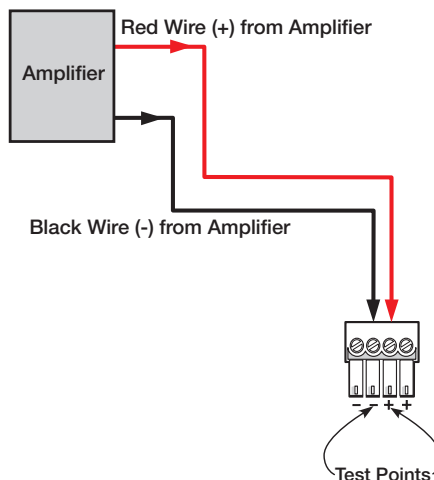

Figure 40. Signal Test Points – Loop-through Configuration
- The source signal can be tested by connecting to the inner + (IN) and – (IN) terminals of the captive screw connector, as shown in figure 40.